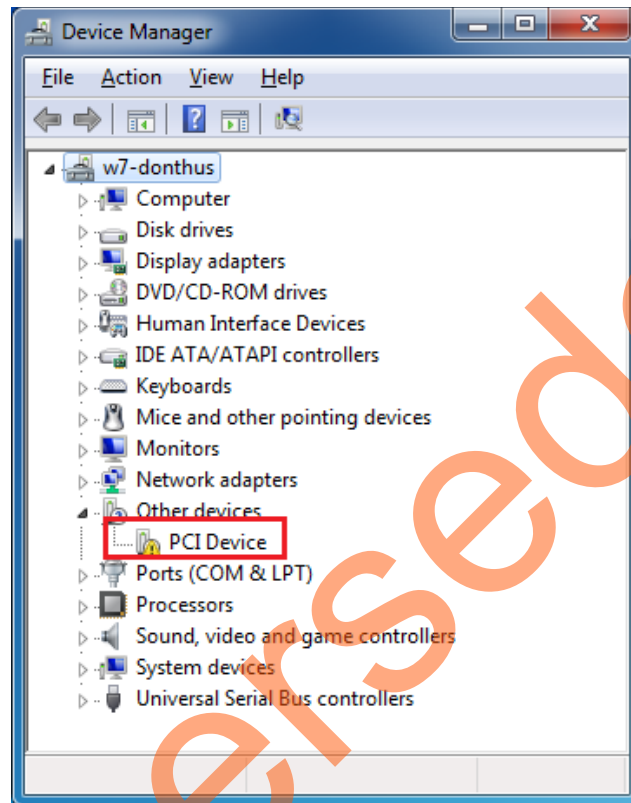

Figure 15 • Device Manager
2. Power on the Host PC and open the Host PC Device Manager for PCIe device, as shown in Figure 15. If the PCIe device is not detected, power cycle the SmartFusion2 Advanced Development Kit Board or SmartFusion2 Evaluation Kit Board. Right-click **PCIe Device** > **Scan for hardware changes** in Device Manager.
After uninstalling previous Jungo drivers, make sure that the PCIe device is detected in the **Device Manager** window as shown in Figure 15.